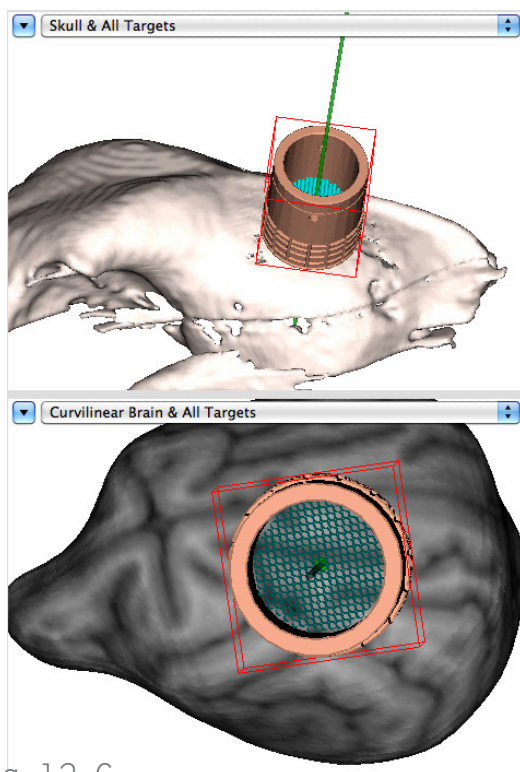

Fig. 12-6
- Note that the chamber is displayed as a thin-walled cylinder or box in the 3D view. If you have a 3D CAD drawing of the chamber, you can select **Crosshairs->Other...** in the Chamber controls pane and select your CAD file from the file dialog. Once loaded, it will be added as one of the shape options in the popup menu (see note regarding requirements of the DXF file format). See Fig. 12-6 for an example of a CAD derived chamber well.